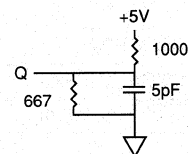

Fig. 2 OUTPUT LOAD EQUIVALENT
- ¹HZCS, ¹HZOE, and ¹HZWE are specified with CL = 5pF as in Fig. 2. Transition is measured ± 500mV from steady state voltage.